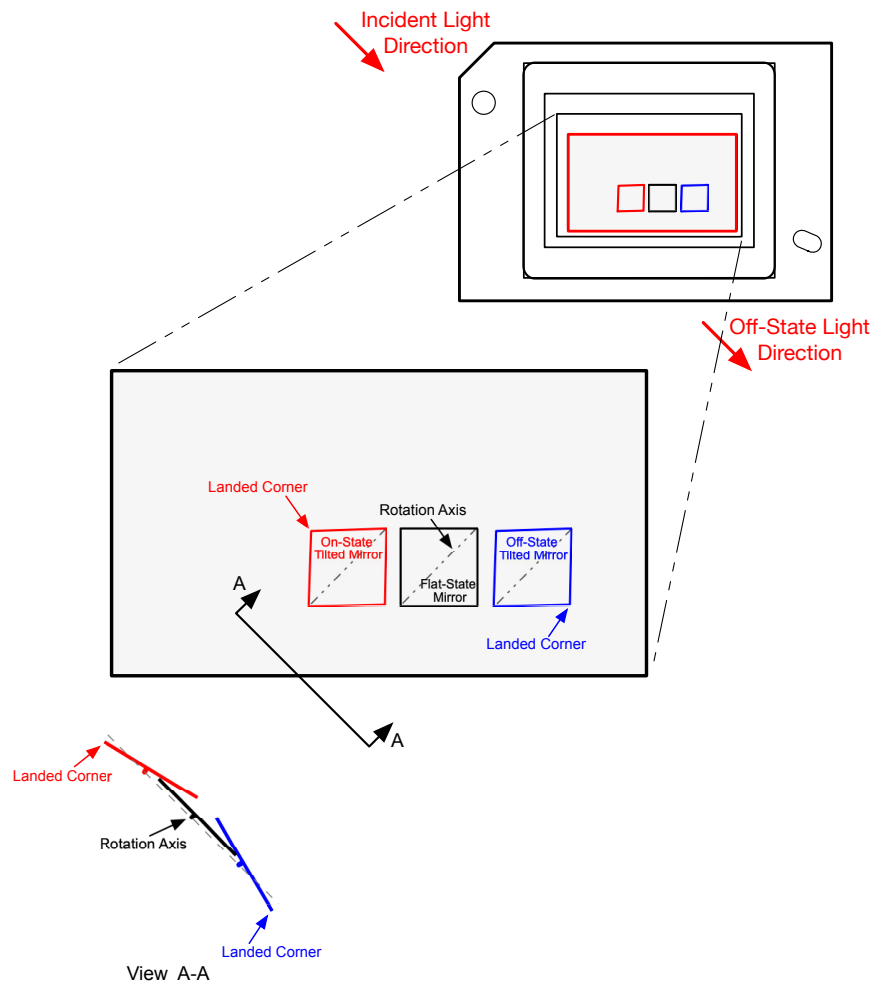

Figure 6-16. Micromirror Landed Orientation and Tilt
- (5) When the micromirror array is landed (not parked), the tilt direction of each individual micromirror is dictated by the binary contents of the CMOS memory cell associated with each individual micromirror. A binary value of 1 results in a micromirror landing in the ON State direction. A binary value of 0 results in a micromirror landing in the OFF State direction, see Figure 6-16.
- (6) The time required for a micromirror to nominally transition from one landed state to the opposite landed state.
- (7) The minimum time between successive transitions of a micromirror.
- (8) Conditions of Acceptance: All DMD image performance returns will be evaluated using the following projected image test conditions:
- (9) Bright pixel definition: A single pixel or mirror that is stuck in the ON position and is visibly brighter than the surrounding pixels